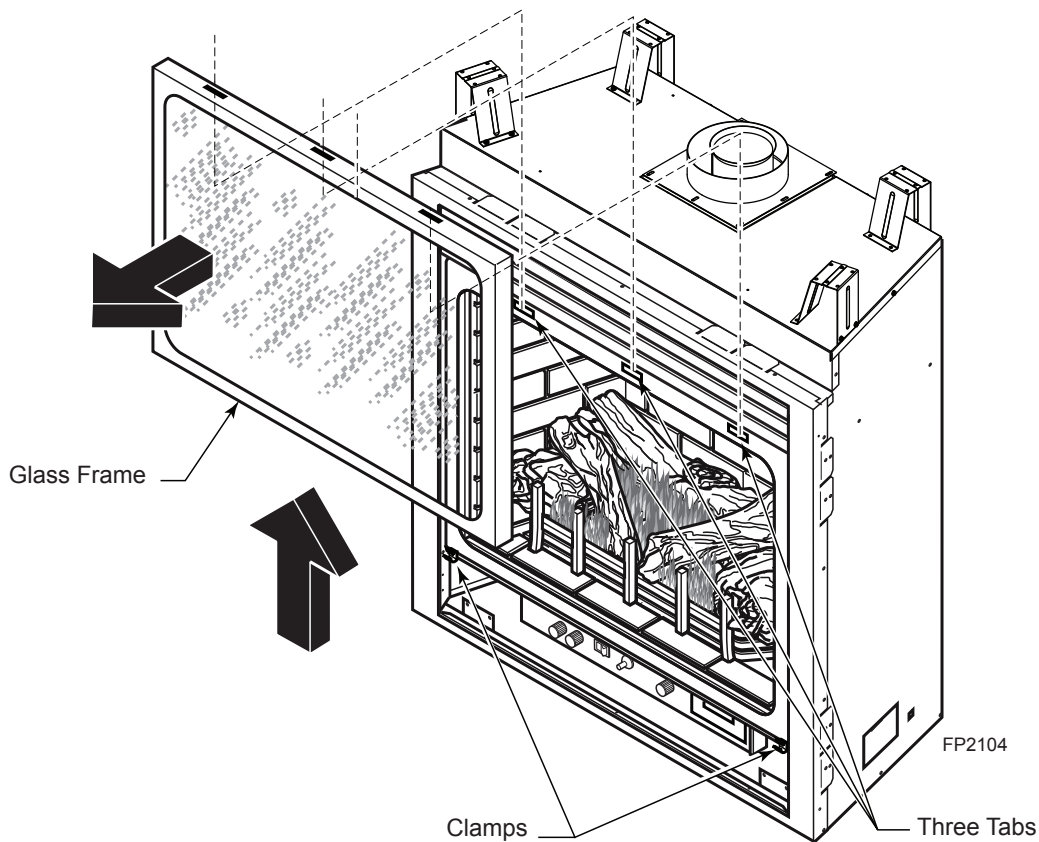

**Figure 59 -
1. Release clamps on bottom of fireplace. *Figure 59*